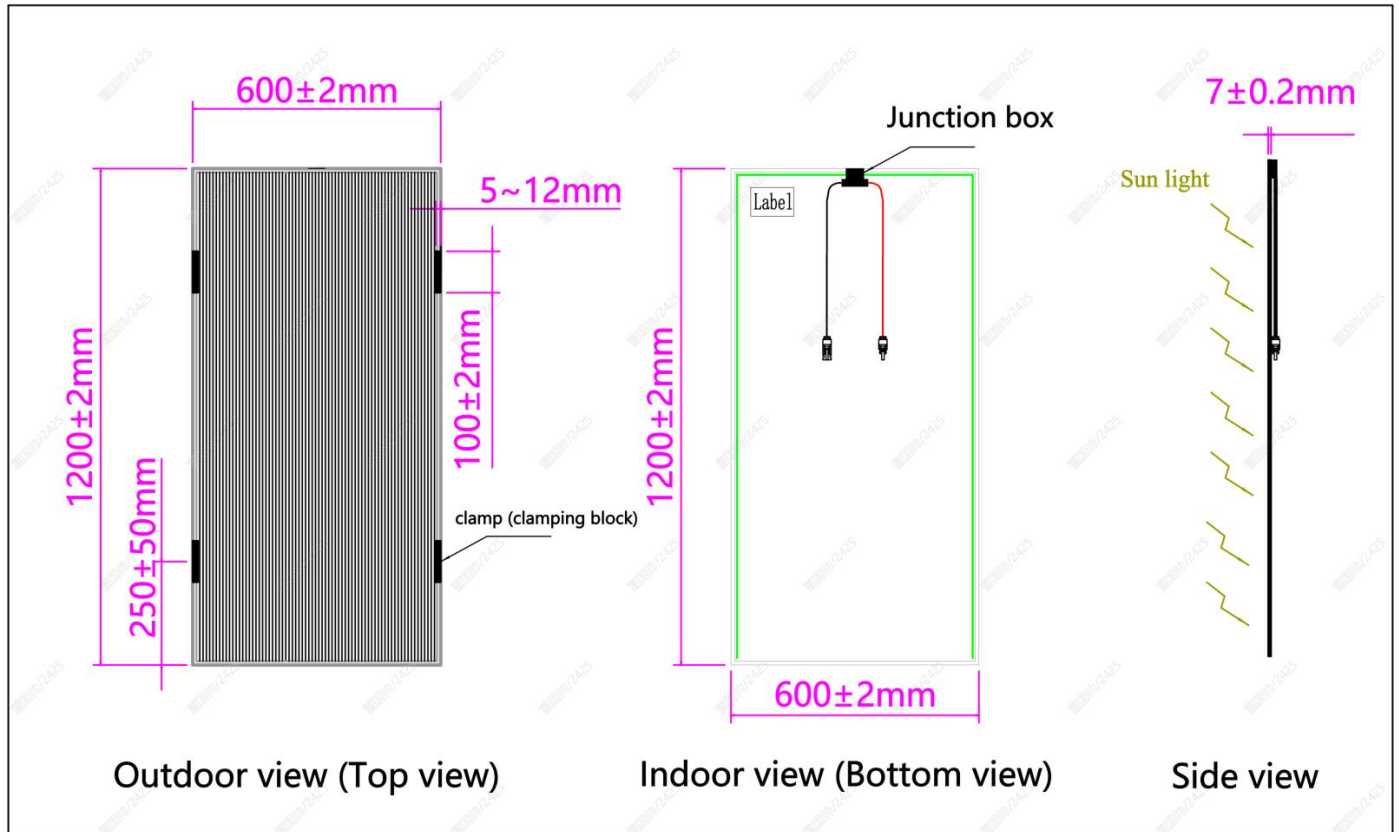

Figure 2 Component Installation Diagram
8.3.1. Components must be installed using specialized clamps. The installation point with a load capacity of 2400Pa is shown in Figure 2. The clamps should be positioned along the 1200mm length of the component, with the center points of the two clamps at each end located 250 ± 50 mm inward from the short edge of the component, as illustrated in Figure 2.